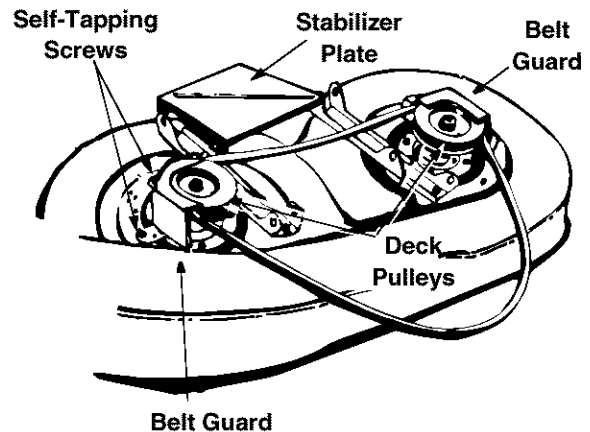

Figure 24
- Remove the belt guards at each deck pulley by removing the self-tapping screws. See Figure 24.